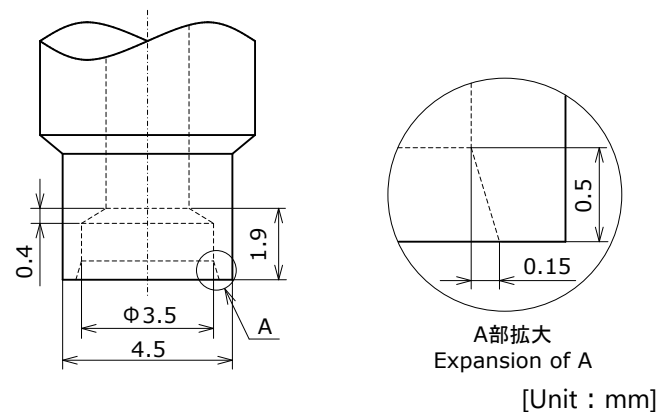

Figure 2. Recommended Nozzle Dimensions
1. When selecting/designing the pick-and-place nozzle, it is important to make sure that there is absolutely no contact between the nozzle and the lens. Ensure proper clearance by taking into consideration the dimensional tolerance of the nozzle and the dimensional tolerance of the LED lens. Nichia's 119/219 series can be used with the pick-and-place nozzle shown in Figure 2.
2. As shown in Figure 2, the nozzle tip should only touch the flat corners of the LED's top surface to hold the LEDs. Ensure that it does not come in contact with the lens. The LEDs uses a silicone resin for the lens and internal pre-coating resin; the silicone resin is soft. If pressure is applied to the lens, it may cause the lens to be damaged, chipped and/or delaminated. If the lens is damaged, chipped, delaminated and/or deformed, it may cause the internal connection to fail causing a catastrophic failure (i.e. the LED not to illuminate) and/or reliability issues (e.g. the LED to corrode and/or to become dimmer, the color/directivity to change, etc.) Ensure that no amount of pressure is applied to the lens.